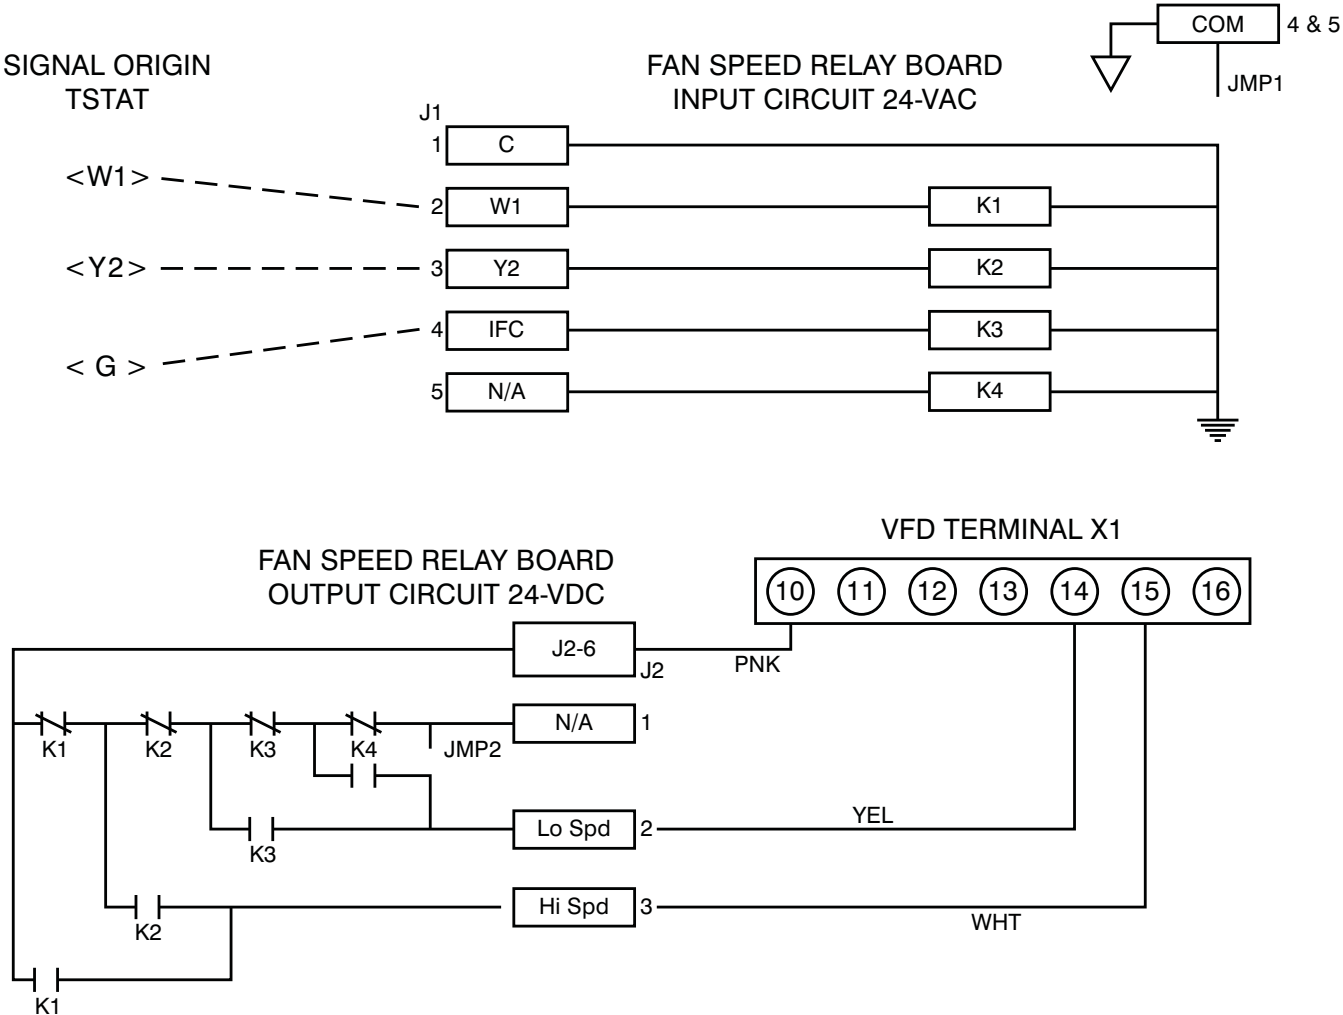

Fig. 15 – Connection Schematic – Fan Speed Relay Board and VFD.
- 5.At the VFD terminal strip X1, disconnect the WHT wire at terminal 15 (see Fig. 15) and tape off.
The board is arranged in two separate circuits with individual pin connectors. Connector J1 is connected to the 24–vac input signal circuit with the four relay coils. Connector J2 is connected to the 24–VDC output circuit that connects to the VFD’s terminal strip. See Fig. 15 for a simplified connection schematic for Fan Speed Relay board and the VFD.